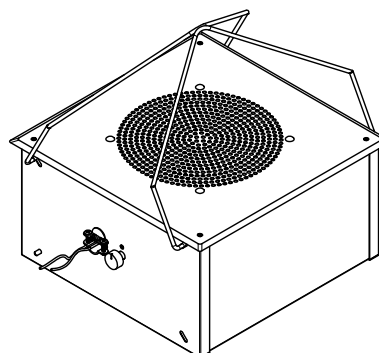

Figure 1
- A) Upward-firing Operation: Use as shipped. (Figure 1)